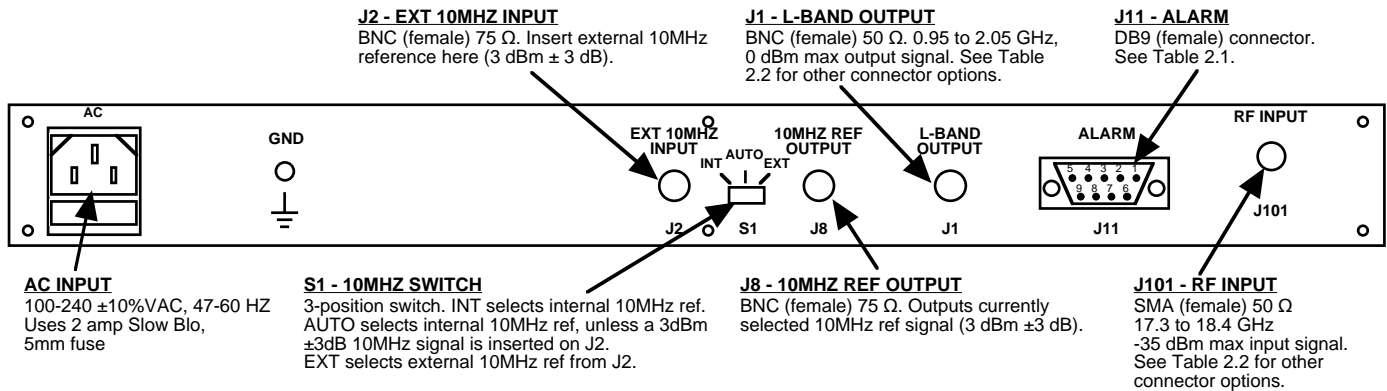

FIGURE 2.1 2116-184 Rear Panel I/O's
Figure 2.1 shows the input and output connectors on the rear panel.
1. Connect a -55 dBm to -35 dBm signal to RF INPUT, J101 (Figure 2.1).
5. Select either INT (for internal 10MHz ref), AUTO (for internal 10MHz ref UNLESS an external 10MHz, 3 dBm signal is connected to J2), or EXT (for external 10MHz, 3 dBm ref that is inserted at J2) on rear panel switch S1 (Figure 2.1).
7. Check that a 10MHz, 3 dBm \pm 3 dB signal is present at the 10MHZ REF OUTPUT (J8) (Figure 2.1).